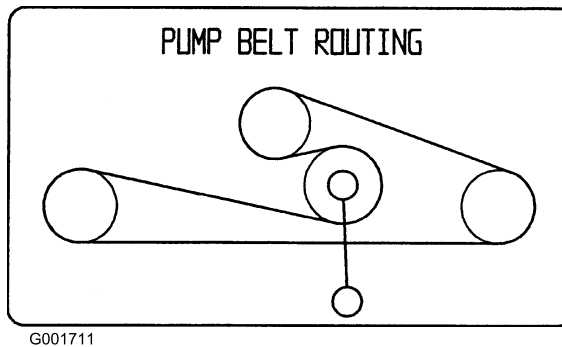

Figure 55
pulleys (Figure 55). Remove belt between pulleys.
- Install new belt around engine and hydro pump pulleys (Figure 55).
- Pull spring loaded idler down and align below traction belt. Release the pressure on the spring loaded idler (Figure 55).